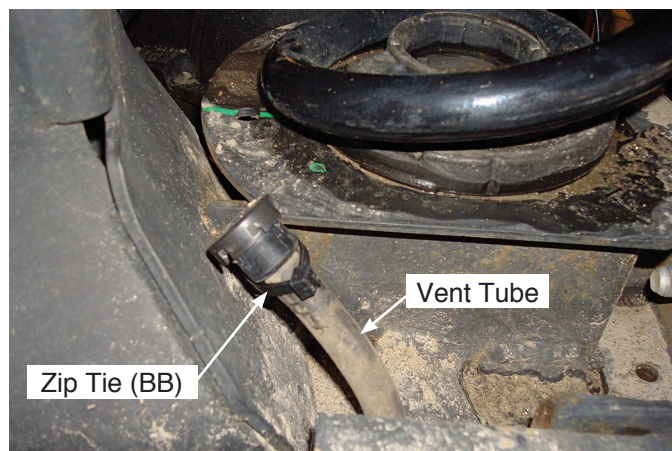

fig. 4
3. Insert the zip tie (BB) into the small hole in the lower coil spring seat, then around the vent tube and just snug the zip tie enough to angle the tube out of the way (Fig. 4).